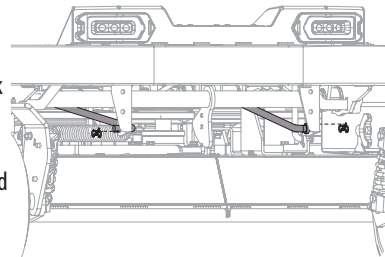

Figure 50
6. Remove the two bow-tie pins from the deck rods that secure the front center lift link brackets on the frame to the front-center lift brackets on the deck and pull the front end of the rods out of place. See Figure 50.